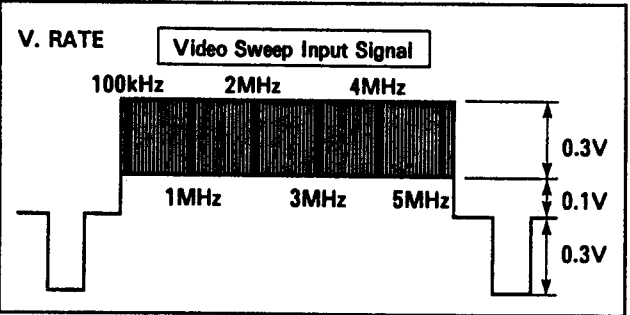

Figure E16
1. Set the sweep generator output as shown in Figure E16.